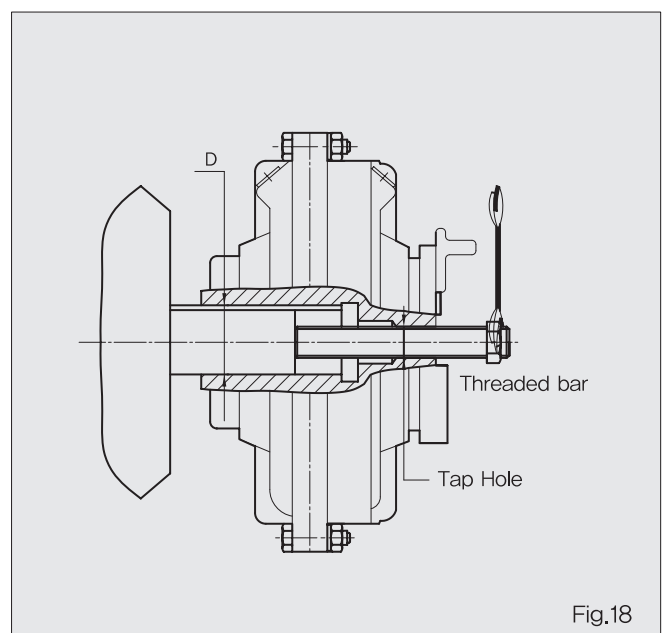

Fig.18
- Screw threaded bar into tapped hole in end of fluid coupling and proceed as indicated in Fig.18 The threaded bar will push the coupling off the motor shaft. For Tap Hole dimension, see Tab.21